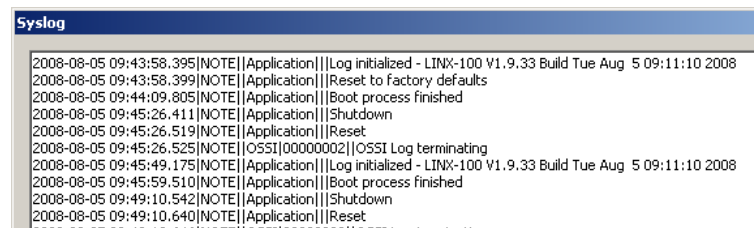

Figure 115: System log window.
3. When the upload is finished, click on **Show System Log**. The system log window appears as shown in Figure 115.